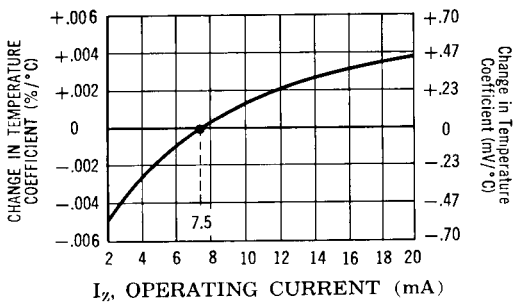

FIGURE 3 Typical change of Temperature Coefficient with Change in Operating Current.
The curve shown in Figure 3 is typical of the diode series and greatly simplifies the estimation of the Temperature Coefficient (TC) when the diode is operated at currents other than 7.5 mA.
EXAMPLE: A diode in this series is operated at a current of 7.5 mA and has specified Temperature Coefficient (TV) limits of  $\pm 0.002\%/^{\circ}\text{C}$ . To obtain the typical Temperature Coefficient limits for this same diode operated at a current of 6.0 mA, the new TC limits ( $\%/^{\circ}\text{C}$ ) can be estimated using the graph in FIGURE 3.
In conjunction with Fig. 3 this curve can be used to estimate total voltage regulation under conditions of both varying temperature and current.